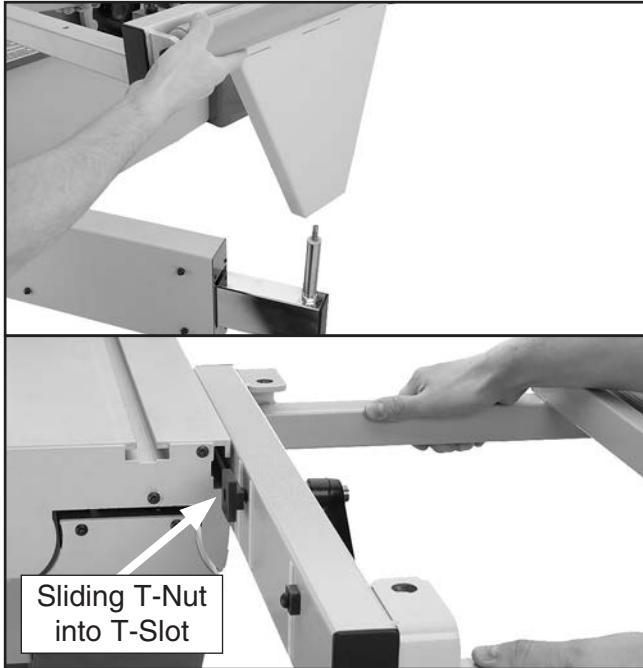

Figure 53. Installing the crosscut table.
48. With the help of an assistant, place the crosscut table on the pivot pin of the swing arm and slide the T-nut into the T-slot in the sliding table (see **Figure 53**).